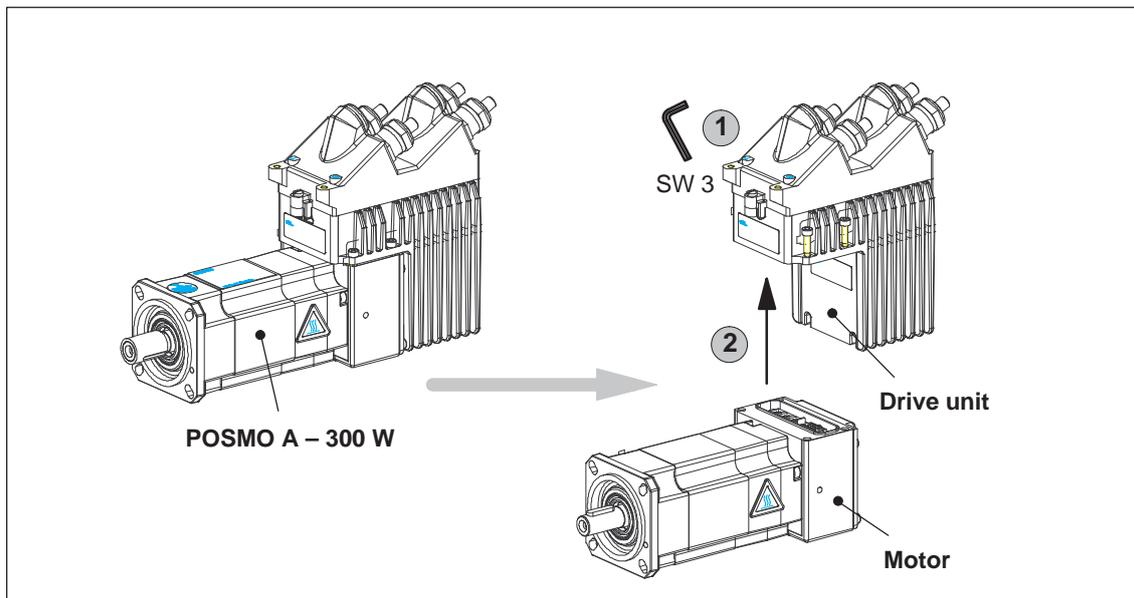
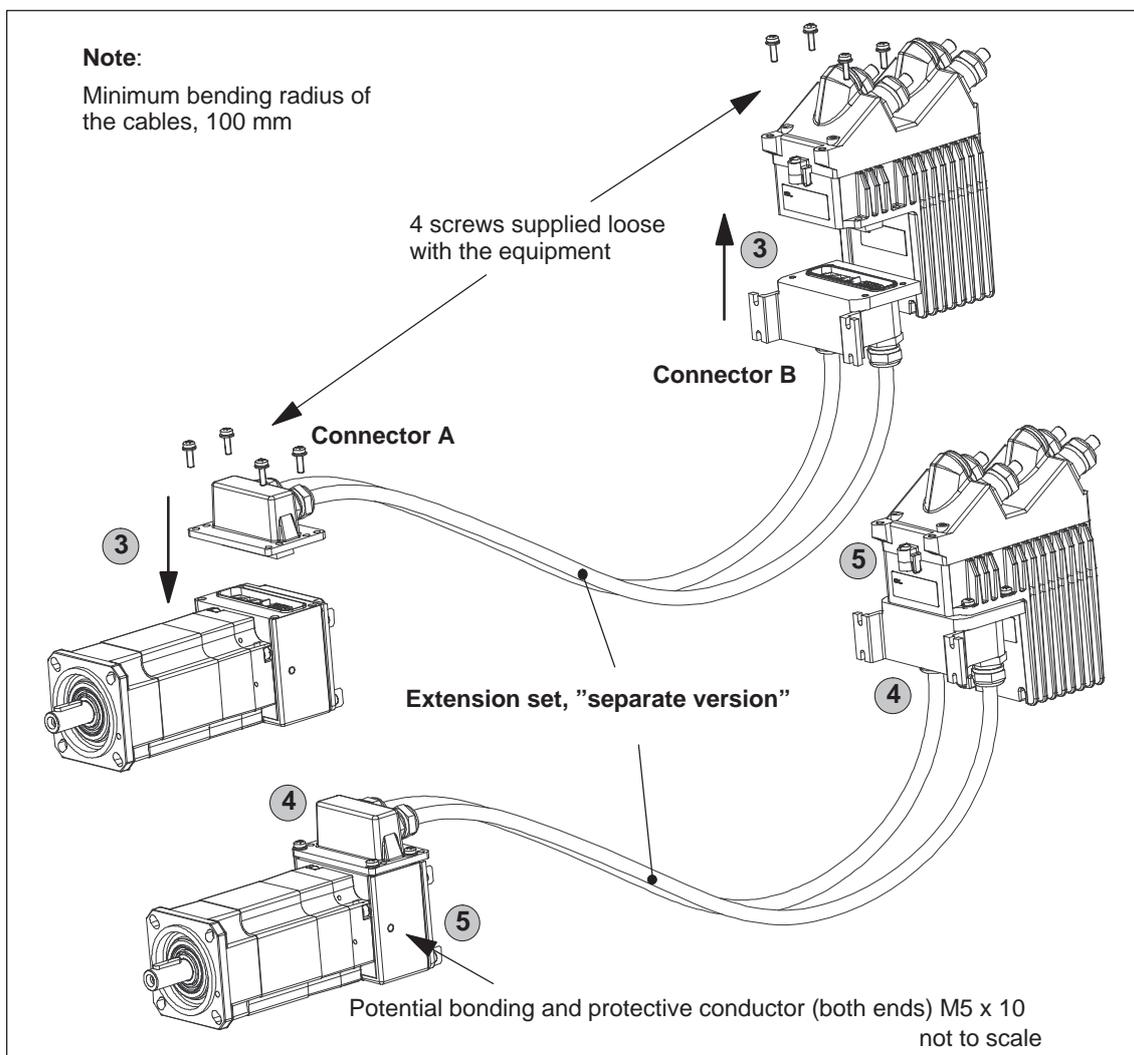

Fig. 2-29 Withdraw the drive unit from the motor
Fig. 2-30 Mounting the extension set "separate version" POSMO A – 300 W
When disassembling the drive unit (refer to Fig. 2-29) and when mounting/installing the extension set (refer to Fig. 2-30), proceed in the following sequence:
- At the motor: Two of the three screw threads (M5) for the transport lugs —> refer to Fig. 2-30